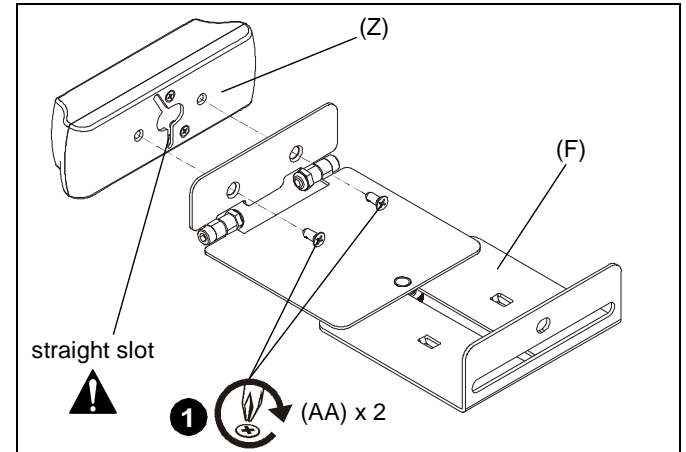

Figure 17
1. Attach camera housing (Z) to camera mount (F) using two #8-32 x 3/8" Phillips flat head machine screws (AA). (See Figure 17)
**IMPORTANT ! :** Make sure straight slot on camera housing is pointing in the proper direction. (See Figure 17)